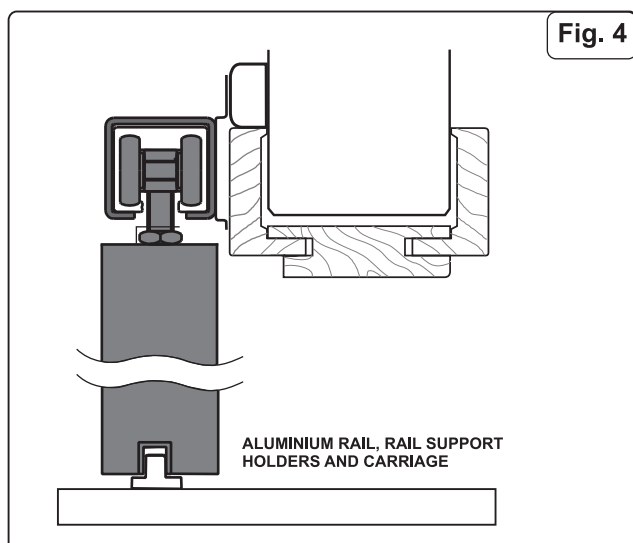

Fig. 4
13. Fix with screws the holders together with the rail to the earlier mounted SP-LGL and SP-LGS spacing strips at the earlier marked height (item 6). The marked line is a place of fixing / drilling (fig. 4).
15. Mount the sliding door leaves on carriages in the aluminium rail. Earlier fix holders in the sliding door leaves – 2 pcs. per one door leaf (fig. 4 and 5).